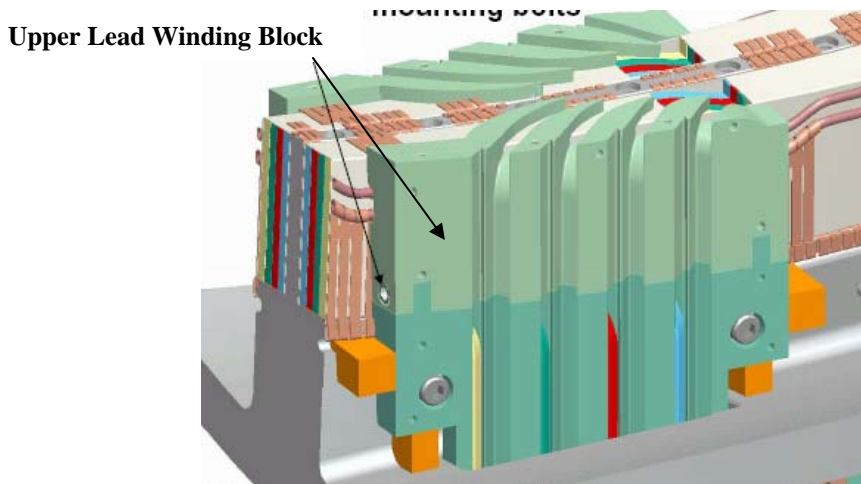

Figure 37- Upper Lead Winding Block
6.35.1 Mount the upper lead winding blocks to the MCWF for both sides “A” and “B” and secure in position with appropriate hardware. [Figure 37- Upper Lead Winding Block] Install glass cloth between G-11 fillers and fill all voids with glass tape or roving.